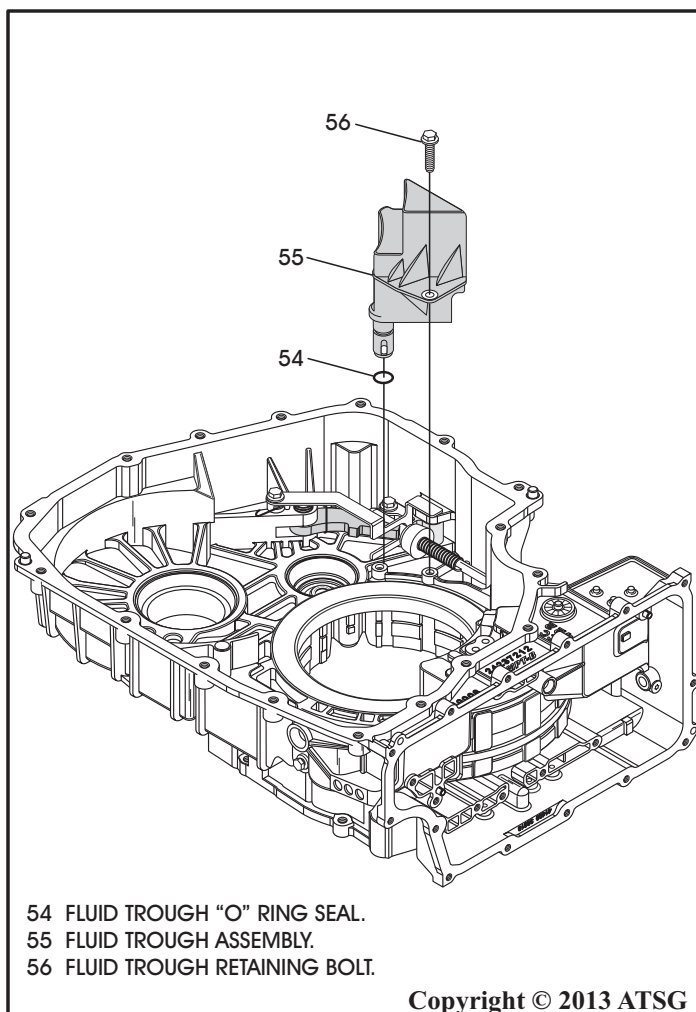

Figure 186
1. Place the completed transmission case assembly on a flat work surface, as shown in Figure 186, or into the bench fixture with converter cover surface facing up.
2. Install new “O” ring seal onto the fluid trough, as shown in Figure 186, and lube with a small amount of Trans-Jel®.
3. Install the fluid trough assembly into the case bore, as shown in Figure 186.
4. Install the fluid trough retaining bolt, as shown in Figure 186, and torque to 12 N•m (106 in. lb.).